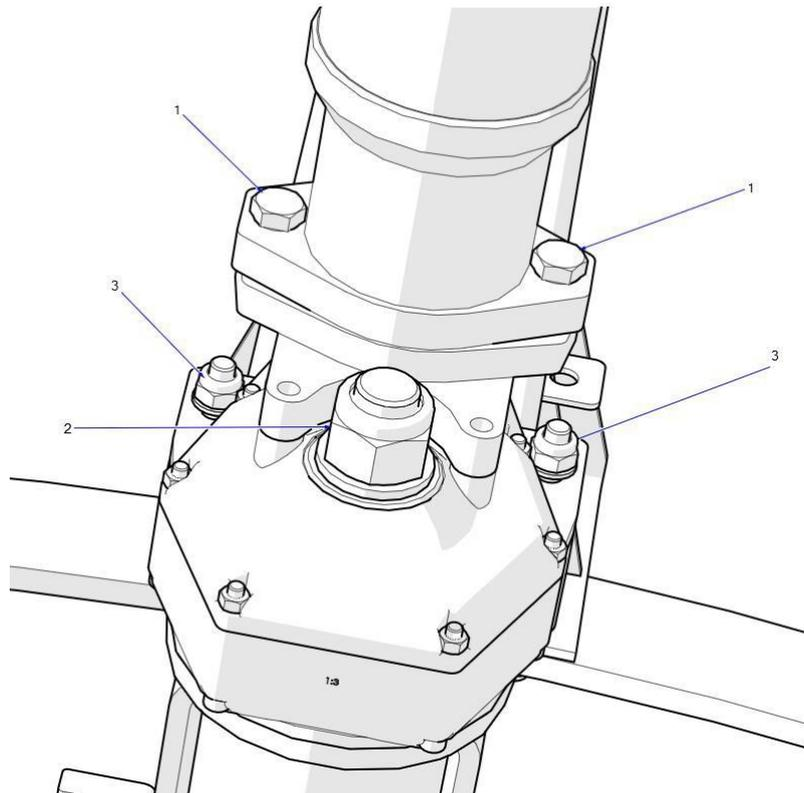

Figure 40. Transmission disassembly
- Install the transmission on the axis and screw to the arm (Fig. 40 item 3),
- Screw the pressing nut (Fig. 40 item 2),
- Mount the motor in the gear and connect it with screws (Fig. 40 item 1).